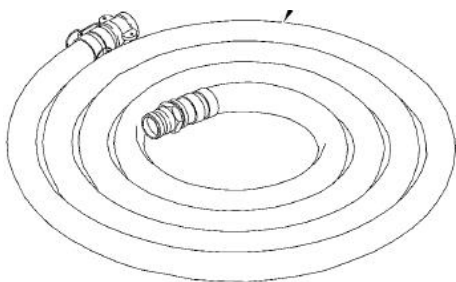

Figure 1-9. Wire reinforced hose assembly (suction hose).
These black wire wound rigid hoses shown in figure 1-9, are used at all pump inlets and anywhere else where negative pressures may occur within the ROWPU system. Quick-disconnect (QD) couplings at the ends of the hoses aid the rapid assembly and disassembly of hose connections during operations. Suction hoses with a blue stripe running the length of the hoses are only intended for use with product water (purified water). Do not use the blue striped hoses in the raw water or backwash water systems.